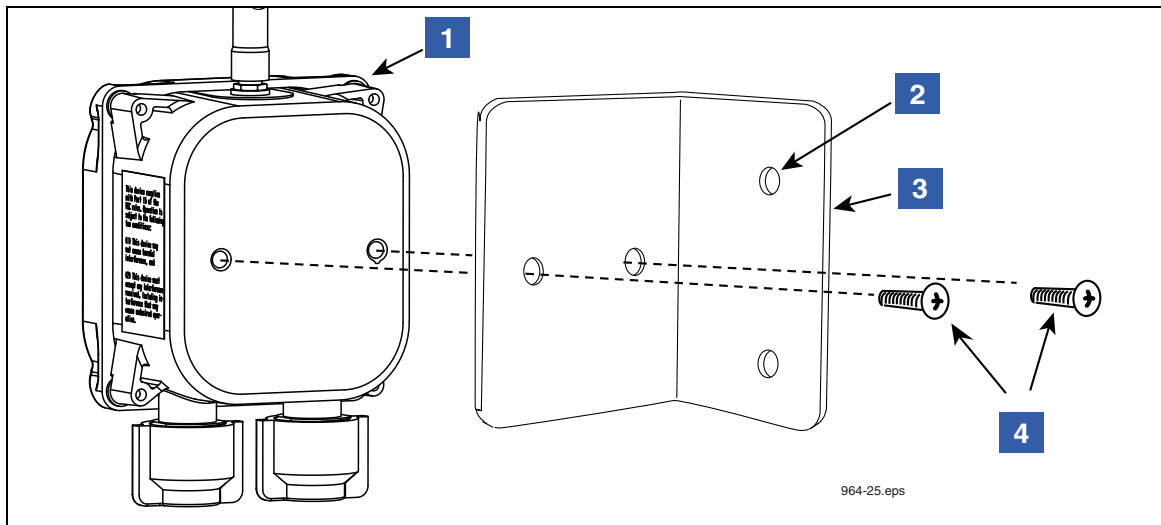

Figure 22. Attaching Mounting Bracket To Receiver Or Repeater
1. One Receiver is required per site and it is mounted in the vertical position (antenna up) on the outer wall of the same building housing the TLS RF. The Receiver is attached to its mounting bracket with #10 x 1/2" taptite screws from its install kit (see Figure 22). The L-bracket is then mounted on the outer wall of the building using appropriate fasteners (customer supplied). If the Receiver will be exposed to the weather, attach the L-bracket to the mounting surface inside a weatherproof enclosure. This enclosure is not required when mounting the Receiver under a roof overhang and shielded from the weather.
LEGEND FOR NUMBERED BOXES IN Figure 22
2. The Repeater is attached to its mounting bracket with #10 x 1/2" taptite screws from its install kit (ref. Figure 22 on page 34). The L-bracket is then attached to the outer wall of the building using appropriate fasteners (customer supplied). If the Repeater will be exposed to the weather, attach the L-bracket to the mounting surface inside a weatherproof enclosure. This enclosure is not required when mounting the Repeater under a roof overhang and shielded from the weather.